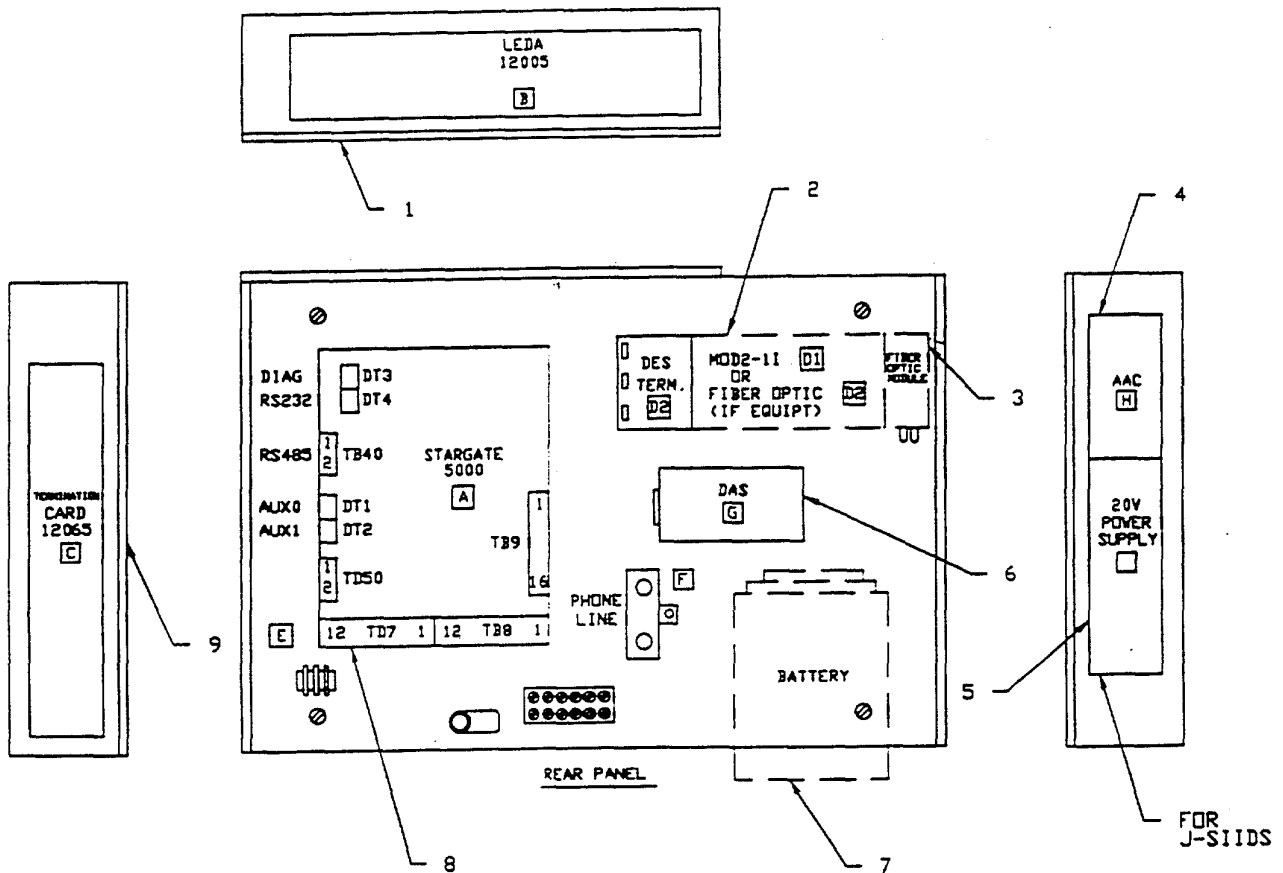

Figure 1-8. Remote Area Data Collector Components, Interior 20vdc
d. Remote Area Data Collector (RADC) Components (Interior) (+20 V) (see Figure 1-8)
(2) **Mod2-II Modem (item 2) or Fiber Optic Cable (Optional) (item 3).** The communications network between the RADC and the PMC. The modem communicates at a 1200 baud rate between the RADC and the PMC.